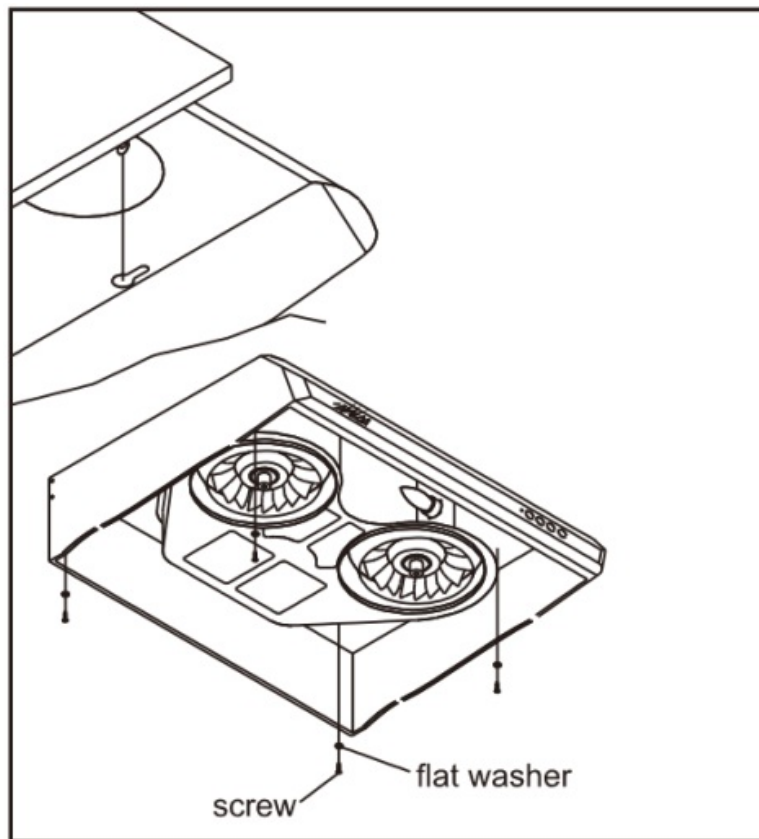

Fig. 13 Fit the keyhole slots over the screws
9. Fit the four wider ends of the keyholes into the four screws on the cabinet, then adjust the hood till the screws are pushed into the narrow part of keyhole slots. Loose e 3/16" washers to screw on together. (Don't screw on too tightly.) (Fig. 13)